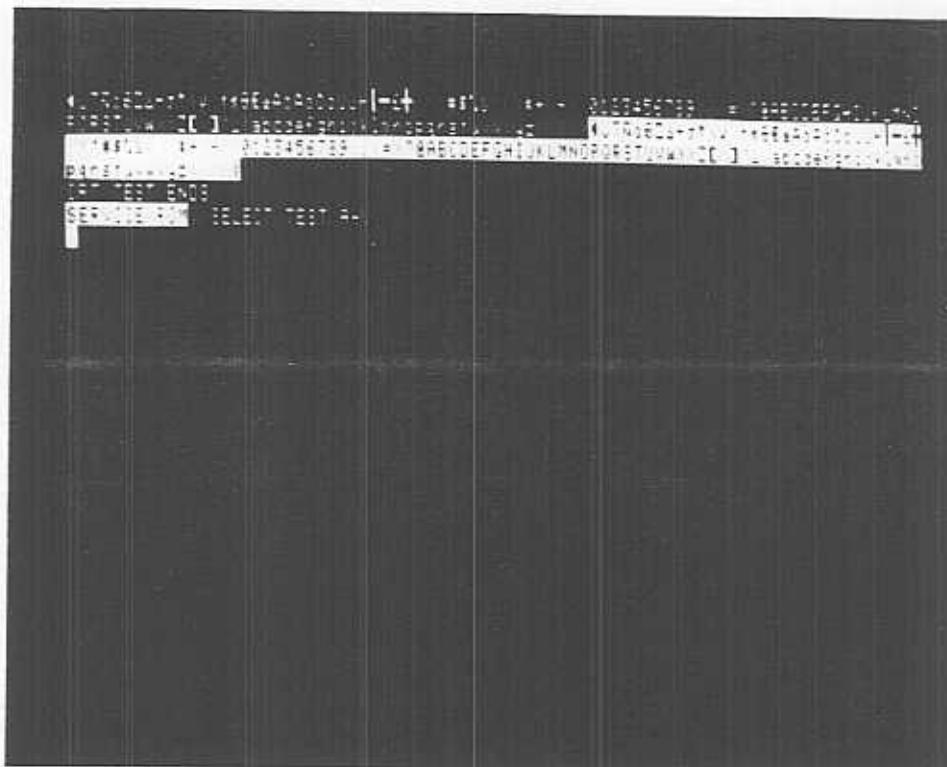

Figure 2-10. CRT Test Pattern 5
- k. Four lines containing two copies of the HP-86B character set, as shown in figure 2-10: one in standard video, the other in inverse video. The actual characters presented will be dependent on the language version of the HP-86B. This is a quick way to ensure that the language ROM is selecting the proper version, by matching the display with the known display format for the version under test. Refer to figure 2-2.